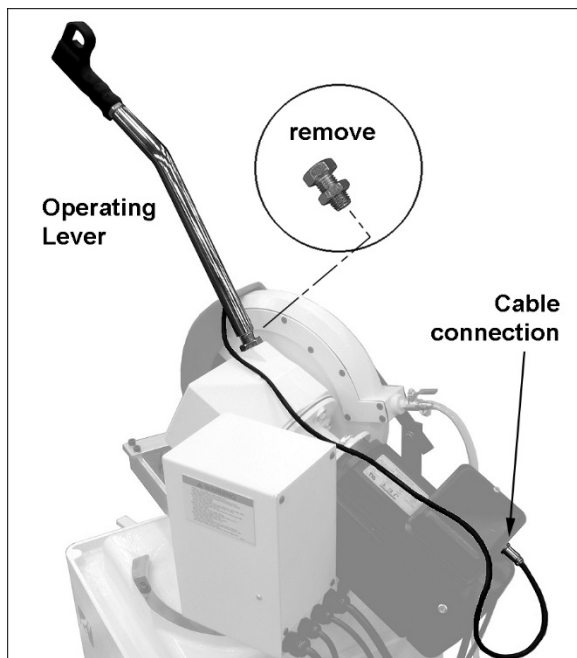

Figure 8-1
Refer to Figure 8-1.
1. Remove the hex nut and screw from the hole at the front of the saw head (Figure 8-1). These fasteners will not be used again unless the machine needs to be transported in the future.
2. Insert the operating lever into the threaded fill hole. Rotate it a good distance into the hole, and make sure the final orientation of the handle grip is in a comfortable position for the operator, as shown in Figure 8-1.